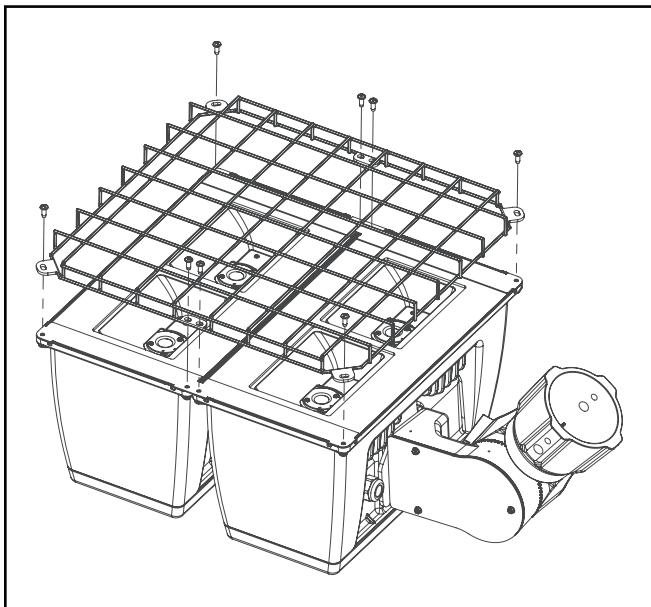

Figure 5.
### Wire Guard (Figure 5.)
1. Loosen and remove the existing (8) 10-24 Philips head screws on the face of the fixture and retain for future reference.
2. Align wire guard on top of lens clips matching the four existing holes. (Figure 5.)
3. Retighten (8) 10-24 Philips head screws from step 1, to the face of the fixture.